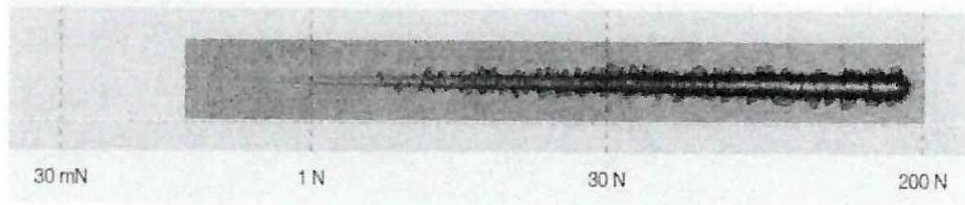

Figure Q4(a)
- Q4** (a) **Figure Q4(a)** shows a result of thin film obtained from the testing method. As a research student, analyze **THREE (3)** important points from the image given. (7 marks)